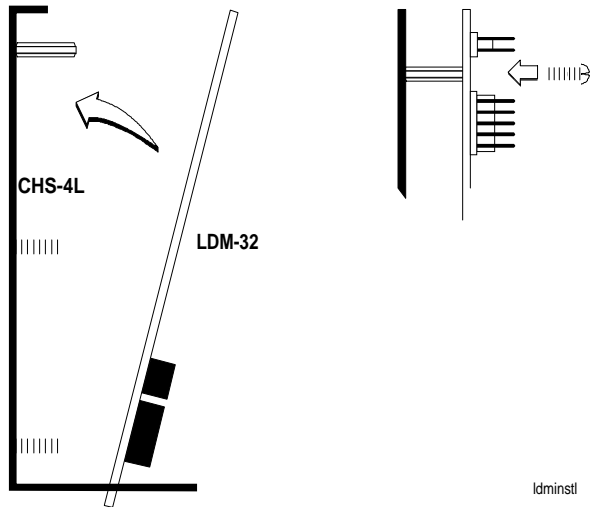
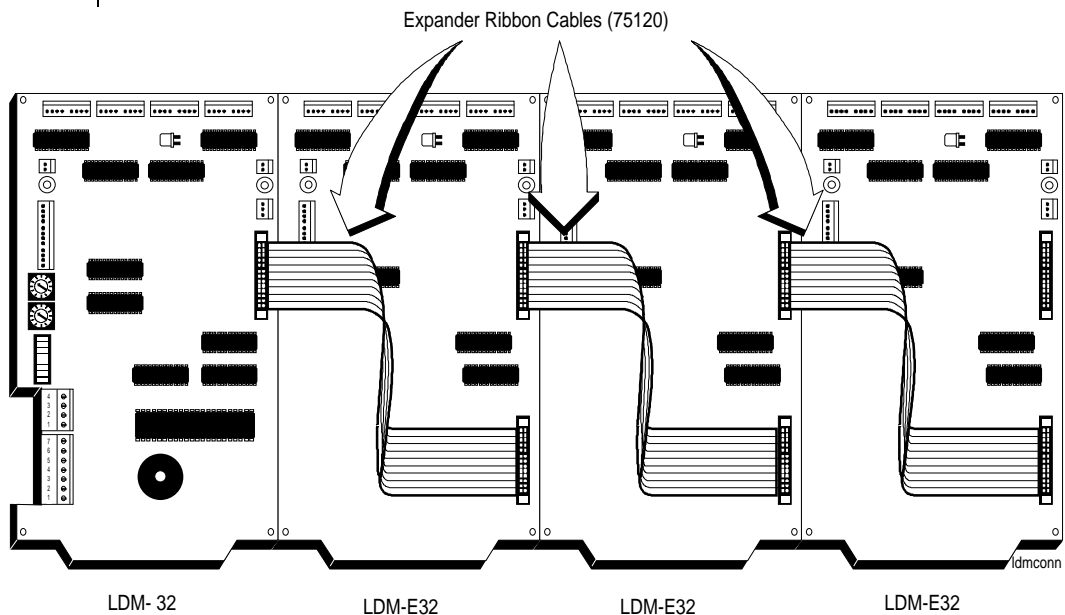
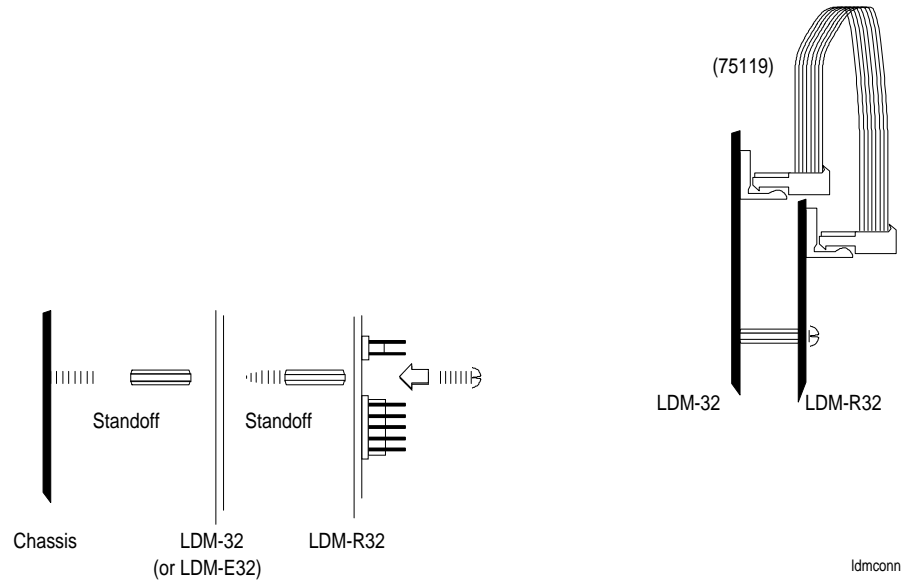

Figure 4: Installing the LDM Module in the CHS-4L Chassis
Figure 5: LDM Ribbon Cable Connection
Figure 6: Installing LDM-R32 Relay Modules
The LDM-32 and LDM-E32 modules mount on four standoffs inside a custom annunciator graphic box. Alternately, the modules may be installed in a standard CHS-4L chassis (not CHS-4) in a CAB-x3 series enclosure. The module size is approximately 4.4 in. x 7.1 in. If you are using a CHS-4L chassis to mount the LDM, see Figure 4. See Figure 5 for instructions on connecting expander modules together. Refer to Figures 6 and 7 for the procedure on installing the LDM-R32 modules. See the appropriate installation document for more information about installing in a CHS-4L in a CAB-x3 series cabinet.
Mount all modules to the chassis or enclosure as shown in Figure 4. One expander may be added for Alarm Only Mode operation. One to three expanders may be installed when the lamp driver is configured for Alarm/Trouble Mode operation. To install the LDM-32 and LDM-E32, follow the steps below and refer to Figure 4.
1. Slip the bottom edge of the LDM-32 into the slot on the CHS-4L chassis and swing the module toward the standoffs (Figure 4).
2. If not employing the optional relay expander (LDM-R2), secure the LDM-32 to the chassis with the screws provided (Figure 4).
3. Repeat for installation of any LDM-E32 expander modules on the chassis (Figure 4).
The outputs on the LDM-32 or LDM-E32 module, instead of driving LEDs, may be used to activate the LDM-R32 relay module. This option provides the system with up to 32 electrically isolated outputs per relay module. If employing an LDM-R32, install it using the following steps and refer to Figures 6 and 7.
1. Secure the LDM-R32 to the LDM-32 with the standoffs provided. (See Figure 6.)
- Attach ribbon cables between the LDM-32 and the LDM-R32 for each group of relays needed (connector J5 to J5, J6 to J6, etc.) as illustrated at in Figure 6.
- Connect the relay power ribbon cable (75119) between J10 on the LDM-R32 and J10 on the LDM-32 or LDM-E32 (Figure 6). This connection supplies the power needed to energize the LDM-R32's 24 VDC relay coils during activation.